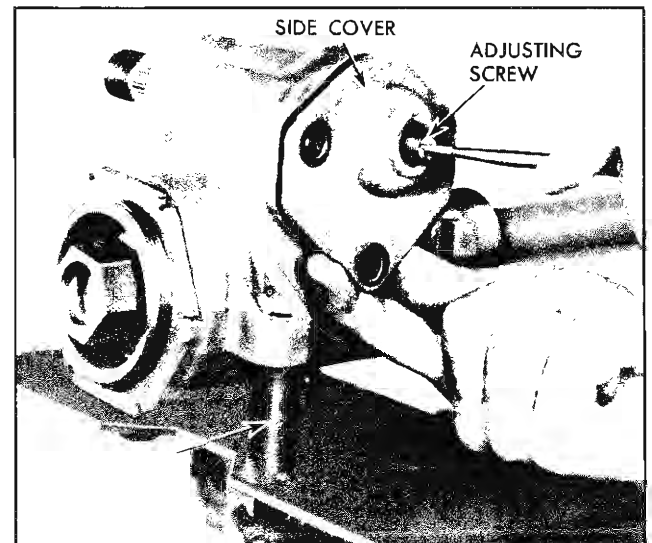

Fig. 9-17 Removing or Replacing Side Cover
3. Remove side cover and gasket by turning adjusting screw clockwise through cover (Fig. 9-17).